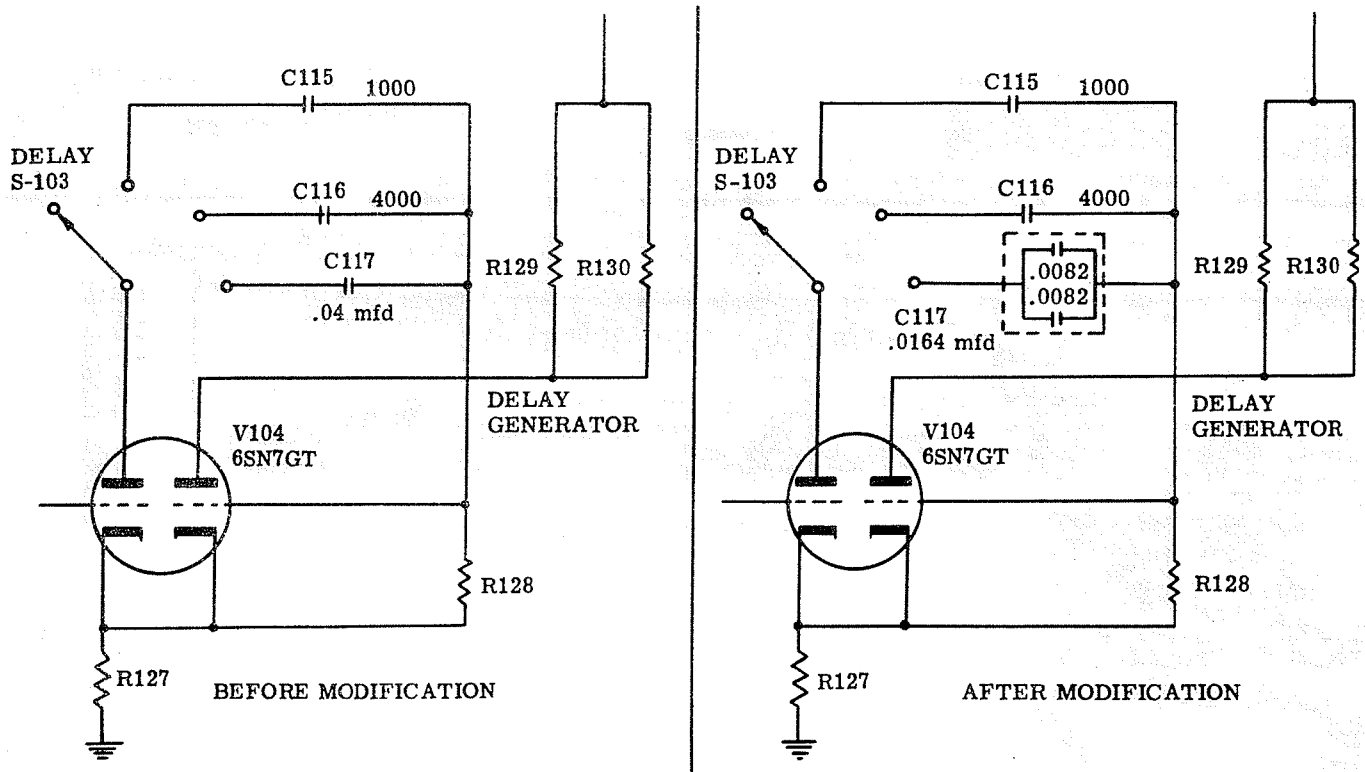

Figure 6-18E. Radar Test Equipment AN/UPM-1—Delay Generator Circuit Before and After Modification
(4) Remove capacitor C-117 (0.04 mfd) and replace it with two 0.0082 mfd capacitors, Signal Corps Stock Number 3K3582242, connected in parallel. (See fig. 6-18E.)
(5) Install the "ON-OFF" switch as follows: